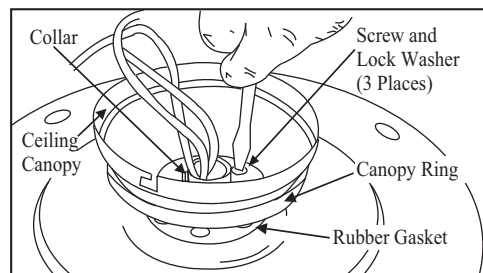

Figure 10
5. Route the wires exiting the top of the fan motor through the canopy ring (make sure the slot openings are on top), then proceed to place the rubber gasket and ceiling canopy over the collar at the top of the motor. (Figure 10)
6. Align the mounting holes with the holes in the motor and fasten using the screws and lock washers removed in step 4. (Fig. 10)